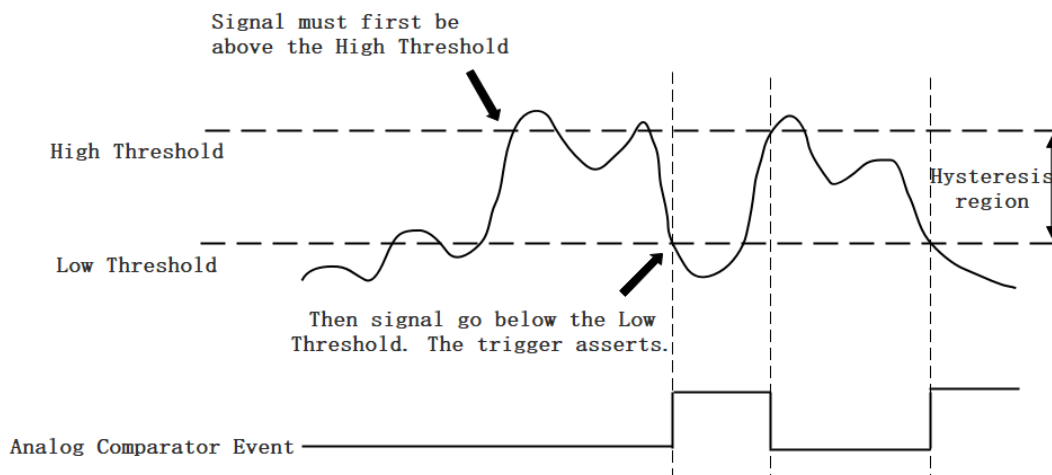

Figure 46 Hysteresis with Falling Slope Trigger
***Hysteresis with Falling Slope Trigger:*** The Hysteresis comparator output is high when the signal must first be above the high threshold, then goes below the low threshold. The output will change to low when the signal goes above the high threshold as shown in Figure 46.